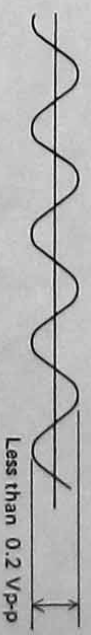

Fig. 6
- (1) HEADPHONE AMP OFFSET adjustment. 1) Use normal setting. Connect oscilloscope and DVM to TP4 (GND is TP-6). Adjust VR6 to obtain offset of 0mV ±20mV.
- (2) HEADPHONE AMP LEVEL adjustment. Set OCTAVE to 4'; leave others at normal. Check point is same as (1) above. 1) Play C3 and adjust VR5 to obtain a sawtooth waveform amplitude of 0.3Vp-p (±5%). 2) Check to be sure there is no waveform distortion at this point.
- (3) OUTPUT AMP OFFSET adjustment. Set WAVEFORM to PW, PW/PWM to 10, MG FREQUENCY to 7, LEVEL to 10, and MOD to VCA. Check SIG OUT (TP-5) with oscilloscope. 1) Adjust VR7 to minimize waveform amplitude. See fig. 6.